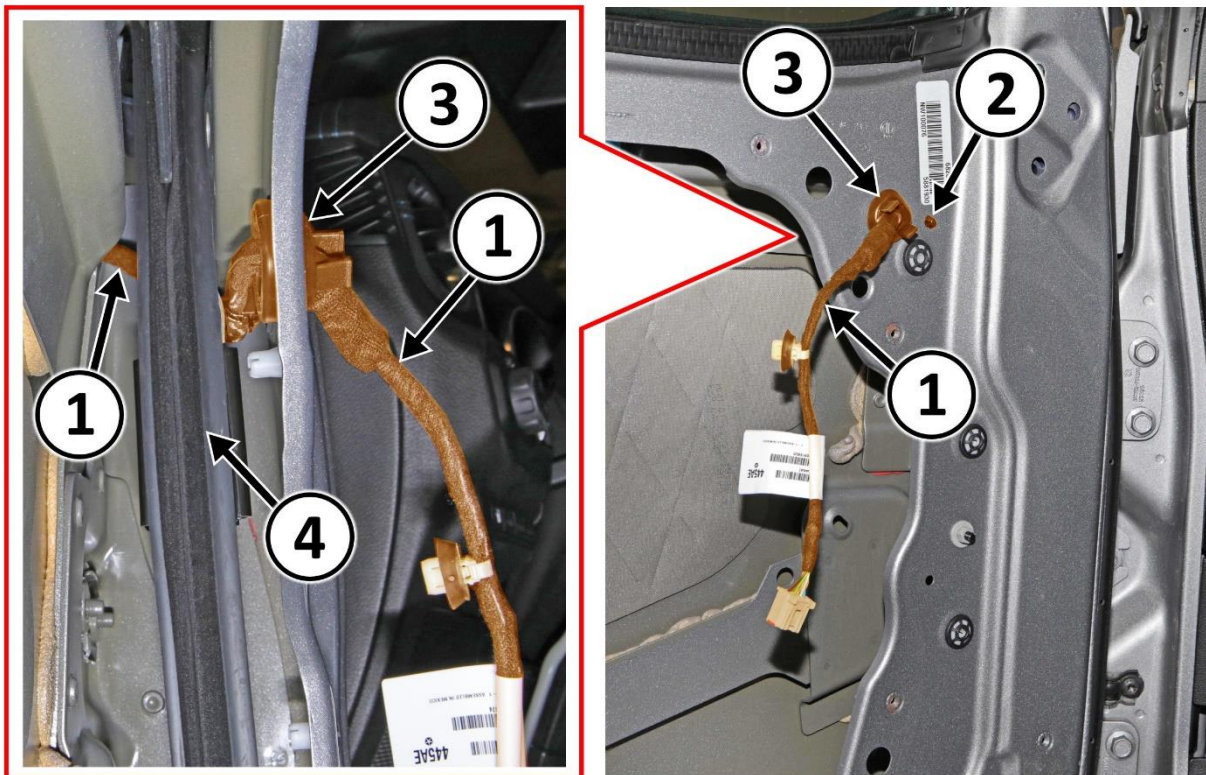

Figure 19 – Mirror Wire Jumper Harness
34. Release the mirror wire jumper harness retainer (2) (Figure 19).
35. Release the mirror wire jumper harness grommet (3) (Figure 19).
NOTE: The mirror wire jumper harness (1) will need to be guided behind the door glass run channel (4) (Figure 19). It may be helpful to attach a guide string or wire to the mirror connector end of the harness which may be used as a guide when installing the new harness.
36. Remove the mirror wire jumper harness (1) from the door (Figure 19). Render the harness unusable and **DISCARD**.
37. Obtain the **NEW** mirror wire jumper harness (1) and guide it through the door. **Make certain the harness is routed behind the door glass run channel (4) to not interfere with the door glass movement (Figure 19).**
38. Install the mirror wire jumper harness grommet (3) (Figure 19).
39. Install the mirror wire jumper harness retainer (2) (Figure 19).